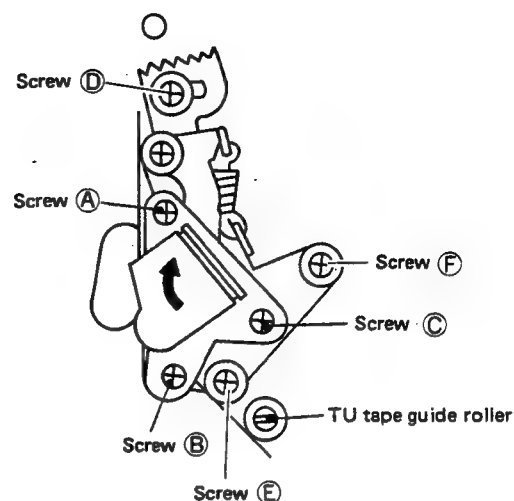

Fig. 2-53 A/C head position
5. Loosen screws D, E and F (Fig. 2-53) and slide the A/C head fully in the drum direction, as indicated by the arrow.